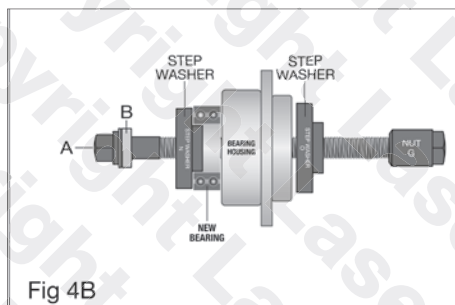

Fig 4B
1. Refer to **Figure 4B**: Select the largest step washer that best fits the new bearing and does not exceed the outer diameter of the bearing.